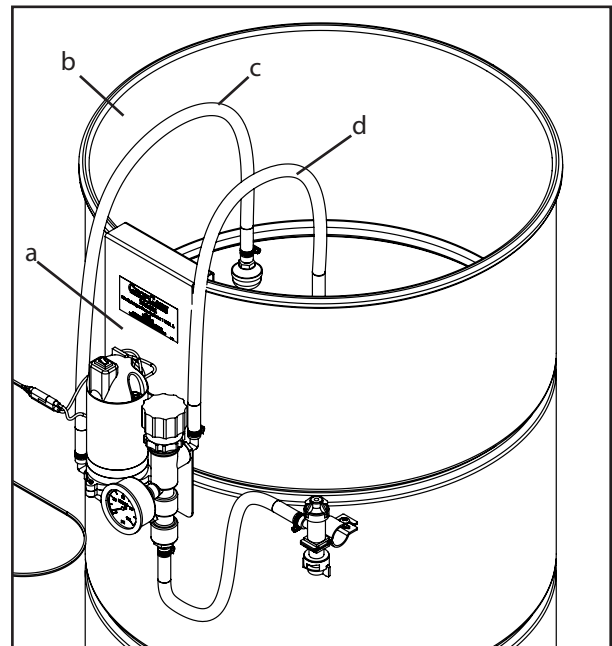

Figure 1: Drum applicator mounting
1. Mount the drum applicator (a) on the side of a drum (b) with the pump on the outside as shown (Figure 1).